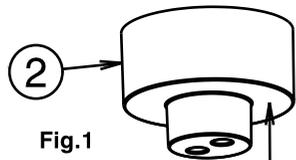

Fig.1
1c) Mark the centre position of the desired location for the Mixer then drill a hole $\varnothing 60 \pm 2$ mm through the flooring base materials. Install the pipework for hot & cold water supplies in accordance with AS/NZS 3500.1. Slide the installation template (2) over the vertical section of each pipe (1) protruding from the floor and position the bottom face (see Fig.1 above) of the template on the top surface of the floor. Crimp or cap the end of each pipe taking care that heat does not damage the installation template (2). Secure the pipework under the floor using suitable brackets, clips or hangers. Care must be taken that undue strain is not applied to the vertical pipe legs which may influence the pipe centres when the installation template is removed after floor trades are complete.